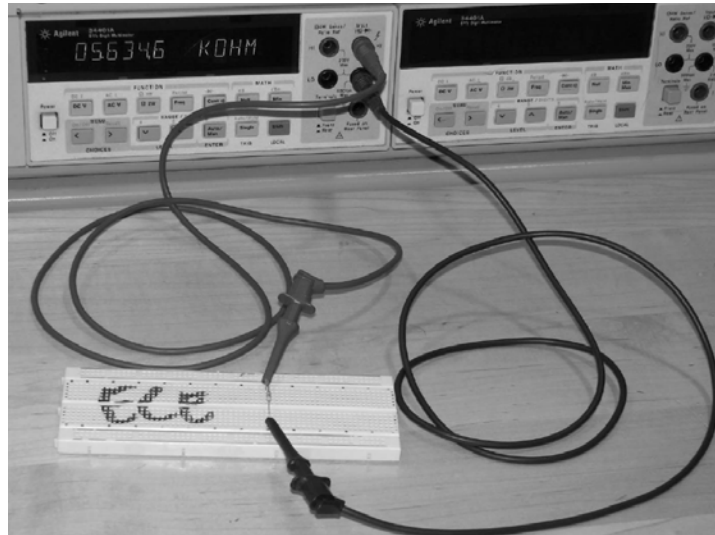

Figure 1-1: Ohmmeter Setup
2.1 Measuring Resistance using the Ohmmeter: Use an ohmmeter to measure the resistance of each resistor in your kit by using the digital multimeter (DMM) in its ohmmeter function. Figure 1-1 shows a photograph of this setup; be sure to use the 2W terminals not the 4W terminals. Record the values of all resistors in your kit on a table similar to Table 1-2 in your lab manual.